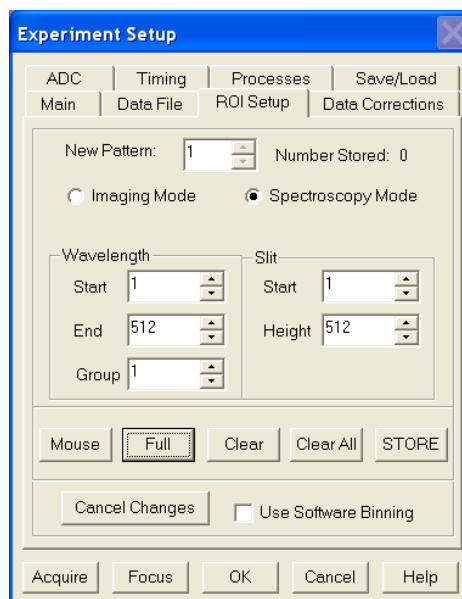

Figure 33. ROI dialog
6. On the **ROI** tab select **Spectroscopy Mode** as shown in Figure 33. The **Use Full Chip** selection on the **Main** tab overrides any ROI settings that may be present.